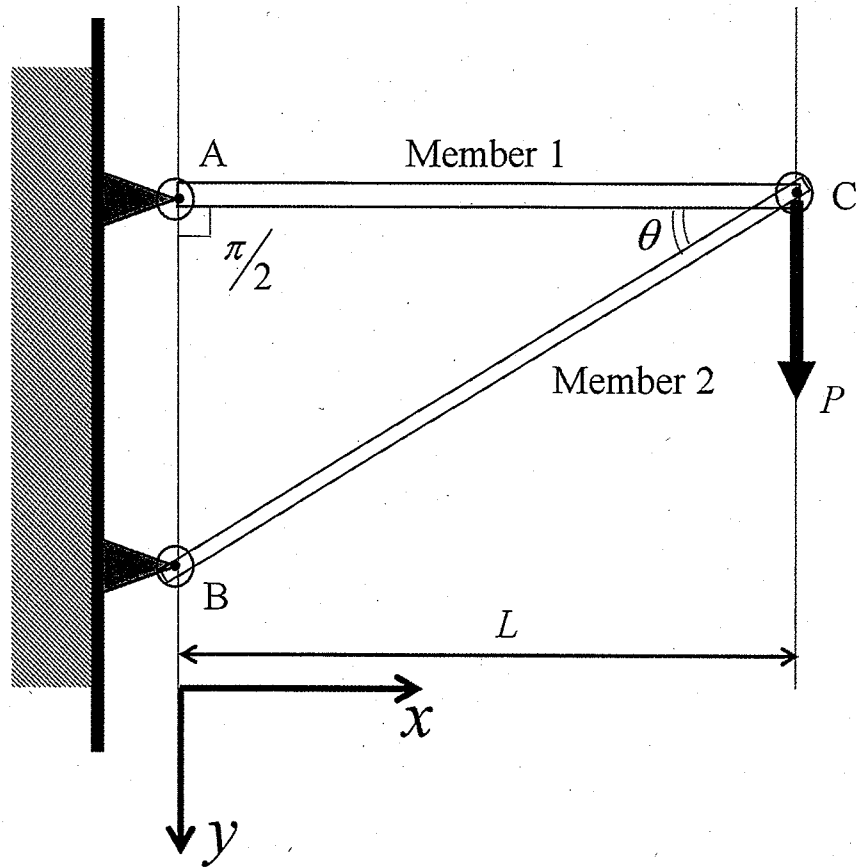

Figure 1-1
I. Consider the plane truss structure shown in Figure 1-1. The straight member 1 is connected to the vertical rigid wall at point A by a pin, and the straight member 2 is connected to the rigid wall at point B by a pin. The members 1 and 2 can rotate freely at points A and B, respectively. They are interconnected at point C, and members 1 and 2 can rotate freely at point C by a pin. Member 1 is perpendicular to the rigid wall, and the distance between points A and C is L . The angle between member 1 and member 2 at point C is θ . Answer the following questions, when the force of amplitude P is loaded in the vertical downward direction at point C from the aforementioned initial situation. The cross-sectional area and Young's modulus of members 1 and 2 are denoted as A_1 , E_1 , A_2 , and E_2 , respectively. Consider the infinitesimal deformation without buckling of each member. Neglect gravitational force and frictional force.
- (1) Obtain the axial force on members 1 and 2 by using P and θ . Here, the axial force is positive for tensile force.
- (2) Assume that if the truss structure breaks, it will start breaking from member 2. Consider the situation that the position of point B, where member 2 is fixed to the rigid wall, and the cross-sectional area of member 2, A_2 , are variable. Obtain the angle θ which minimizes the mass of member 2, under the condition that the ultimate load that can be applied to the truss structure is constant.
- (3) Express the elastic strain energy of members 1 and 2, $U^{(1)}$ and $U^{(2)}$, by using $P, L, \theta, A_1, A_2, E_1$, and E_2 .
- (4) Obtain the vertical downward displacement, δ_y , of point C.